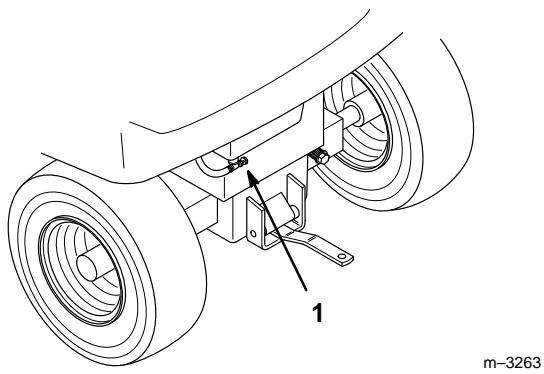

Figure 40
- Close the fuel shut-off valve at the fuel tank (Fig. 40 & 41).
2. Close the fuel shut-off valve at the fuel tank (Fig. 40 & 41).
7. Open the fuel shut-off valve at the fuel tank (Fig. 40 & 41).